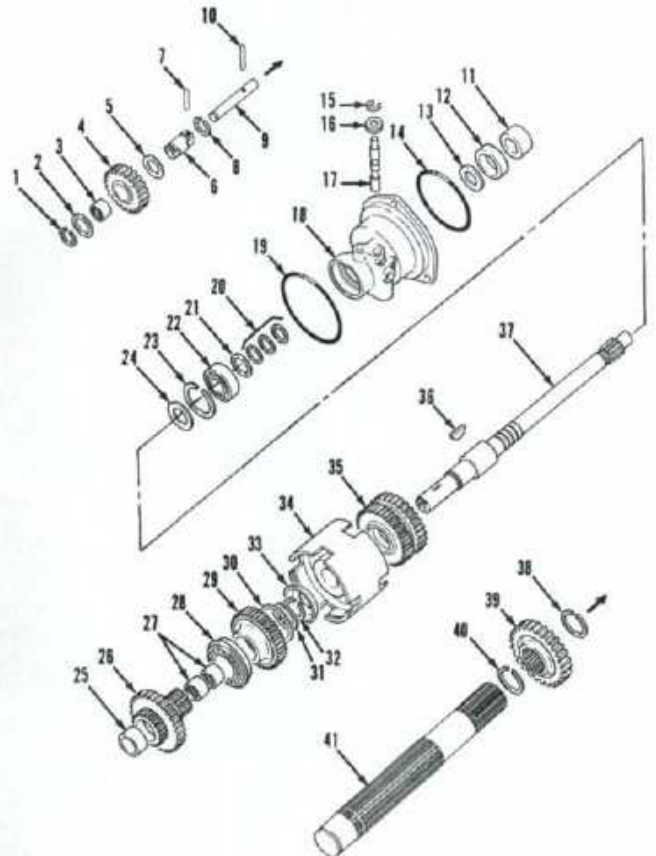

Fig. 107—Exploded view of Forward-Reverse transmission. Items (25 through 31) are located in speed gearbox.
To disassemble the removed Forward-Reverse unit, refer to Fig. 107 and proceed as follows: Clamp clutch shaft (37) in a soft jawed vise and remove shift spool (17) from housing (18). Remove retaining ring (32) and